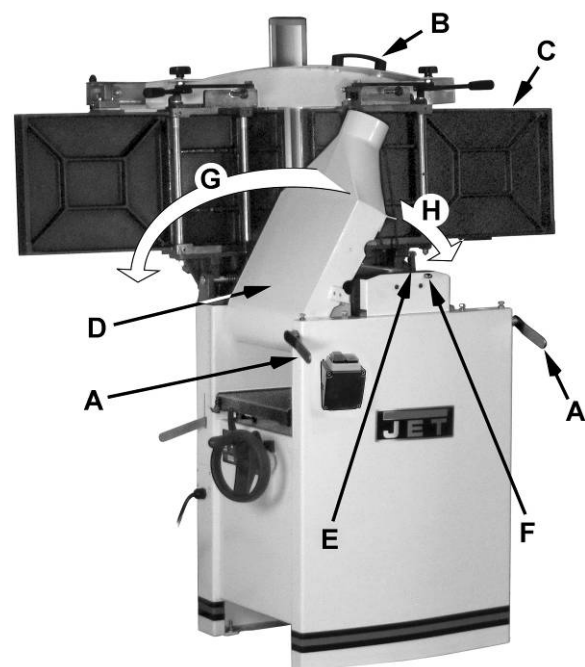

Figure 3
When raised, the table should be in the vertical position as shown in C, Fig. 3. The *latch* (E, Fig. 3) should be engaged, preventing the table from an accidental forward fall.
3. Position the *dust chute* (D, H Fig. 3) to the right. Use extreme care to avoid contact with cutterhead knives.
Referring to Figure 3: